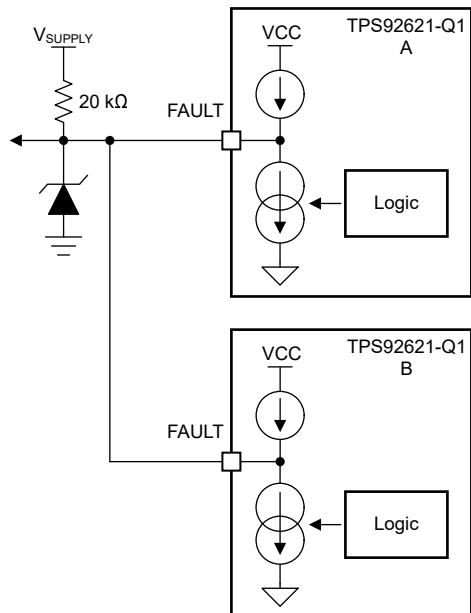
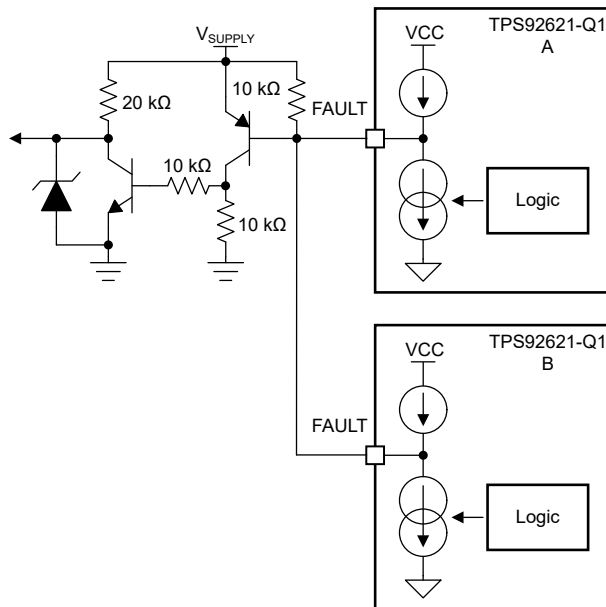

图 7-6. FAULT Bus for One-Fails-All-Fail Application
图 7-7. FAULT Bus for One-Fails-Others-On Application
Based on this feature, the TPS92621-Q1 device is able to construct a FAULT bus by tying FAULT pins from multiple TPS92621-Q1 devices to achieve one-fails-all-fail function as 图 7-6 showing. The lower side TPS92621-Q1 (B) detects any kind of LED fault and pulls low the FAULT pin. The low voltage on FAULT pin is detected by upper side TPS92621-Q1 (A) because the FAULT pins of two devices are connected. The upper side TPS92621-Q1 (A) turns off output current as a result. If the FAULT pins of each TPS92621-Q1 are all connected to drive the base of an external PNP transistor as illustrated in 图 7-7, the one-fails-all-fail function is disabled and only the faulty channel device is turned off.